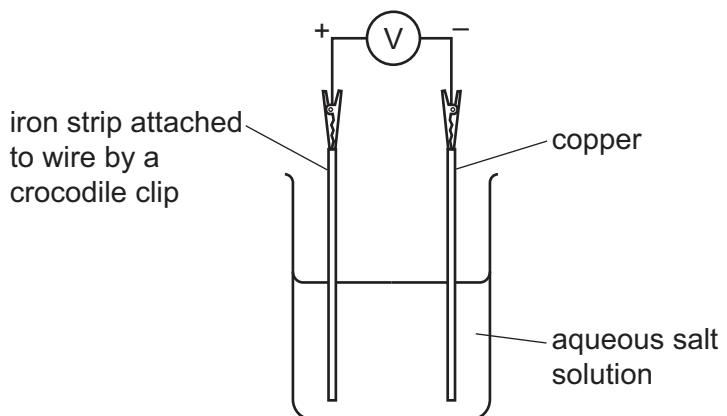

Fig. 4.2
- Attach a strip of iron to the positive terminal of the voltmeter and place it carefully at the opposite side of the beaker to the strip of copper as shown in Fig. 4.2.